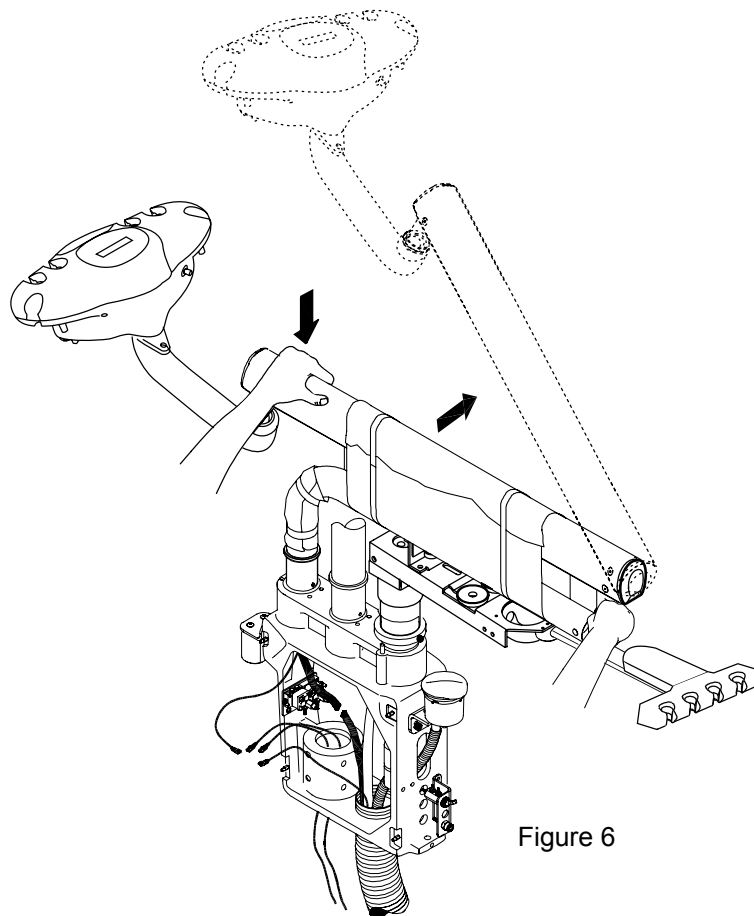

Figure 6
10. Carefully remove the shipping tape and material while providing pressure on the spring loaded flex arm. Slowly bring the flex arm into its upward position as shown in figure 6. (Rotate arm in the best direction to minimize any cable twisting or pinching). Locate smaller 3/16" stop pins from the hardware kit and install in flex arm elbow. Move unit through entire range of motion and verify stop pins in front elbow are set so the head never bumps into its own arms.